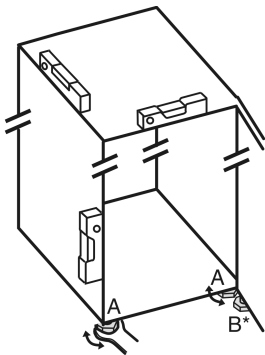

Fig. 28
- Unscrew the adjustable feet Fig. 28 (A) using the enclosed open-end spanner and a spirit level until the appliance is firmly aligned and level.
- Unscrew the adjustable foot Fig. 28 (B) on the swap bearing block with the enclosed open-end spanner until it rests on the floor.
- Turn the adjustable foot Fig. 28 (B) 90° further.